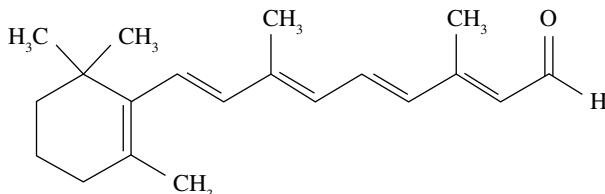

FIGURE 15.7.8 Structure of a vitamin.
- 2 Figure 15.7.8 is a structural diagram of a vitamin found in the human body.